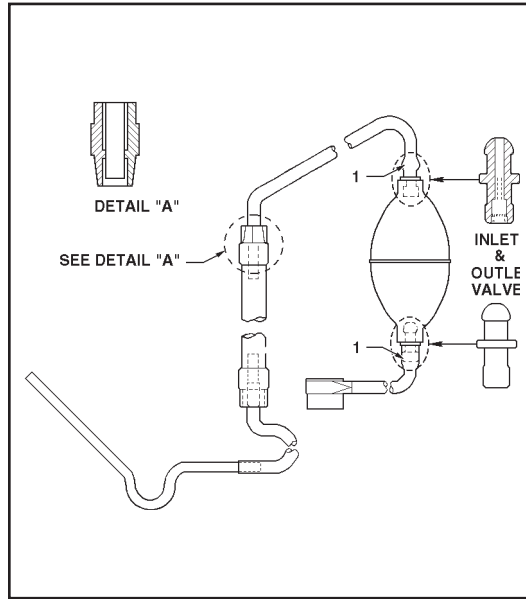
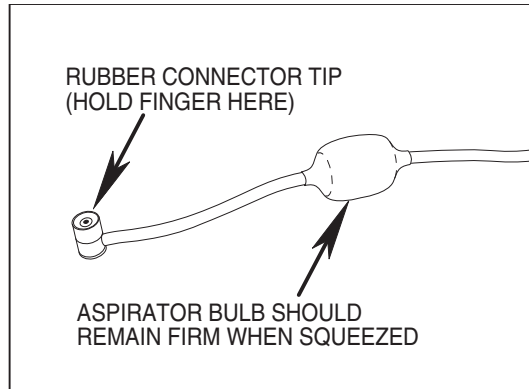
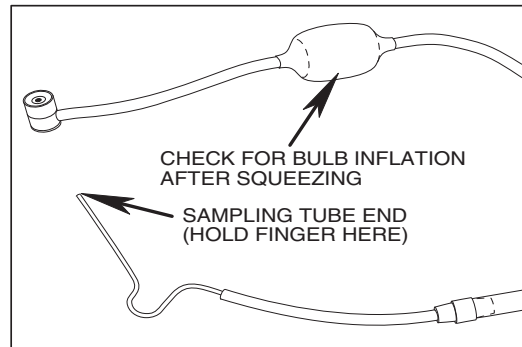

Figure 26. FYRITE Sampling Assembly; Locating Inlet/Outlet Check Valves.
Figure 27. Testing Sampling Assembly (outlet side) for leaks.
Figure 28. Testing Sampling Assembly (inlet side) for leaks.
6.7 Aspirator Bulb - Sampling Assembly (Refer to Figs. 26, 27, & 28)
To inspect Sampling Assembly, seal hole in the center of rubber Connector Tip firmly with finger and squeeze Aspirator Bulb (Figure 27). Bulb should remain firm. If Bulb collapses, check Bulb and Hose to Connector Tip for cracks or other source of leakage. Replace defective parts. If there are no apparent leaks in the Sampling Assembly, replace Inlet Check Valve. Small hole end of Inlet Check Valve fits in Hose and large hole end fits in the Aspirator Bulb (Figure 26).
Now seal end of metal Sampling Tube with finger, and collapse Aspirator Bulb. (Figure 28). If the Bulb returns to original shape in less than 15 seconds, inspect Hose, Filter, Saturator Tube and Metal Sampling Tube for leaks. If none are found, replace the Outlet Check Valve. Small hole end of Outlet Check Valve fits in Aspirator Bulb and large hole end fits in the Hose (Figure 26).